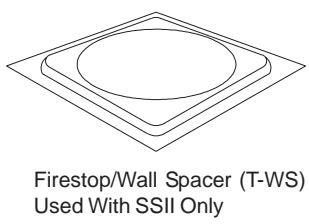

FIG 1A
2. Fire Stop/Wall Spacer (WS), for use (with Model SSII only) in vertical enclosures, and for wall openings on the outdoor side. (See Fig. 1A)